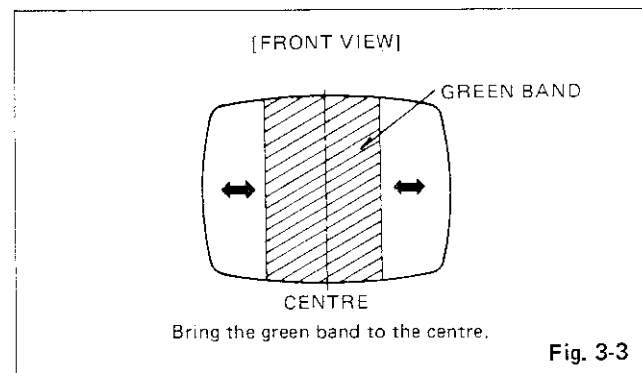

Fig. 3-3
4. Turn the green cut-off control to maximum and the red and blue cut-off controls to minimum. Then adjust the screen control so that the green band can be seen best. (Fig. 3-3)